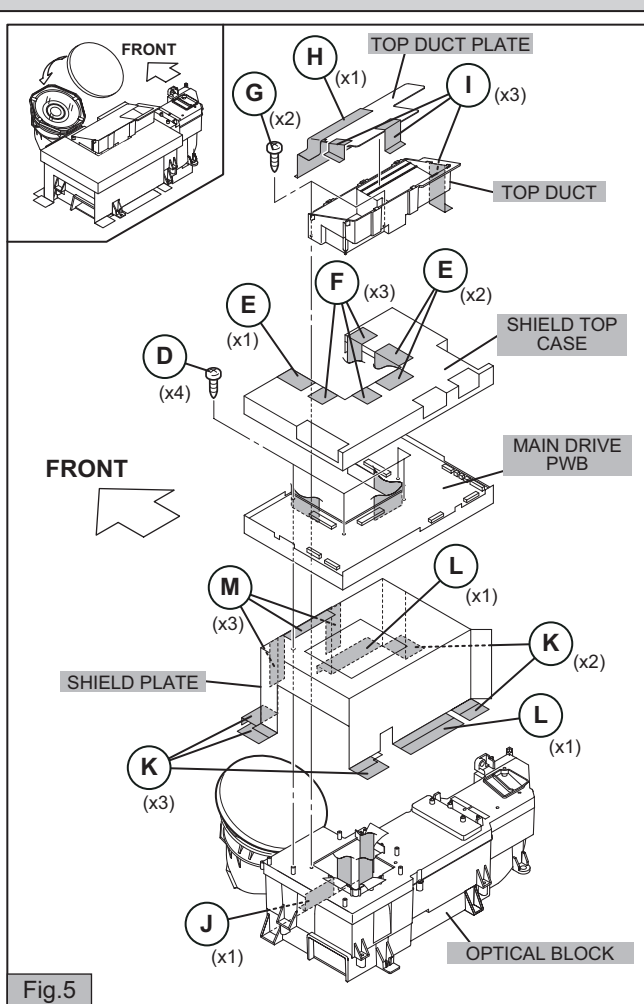
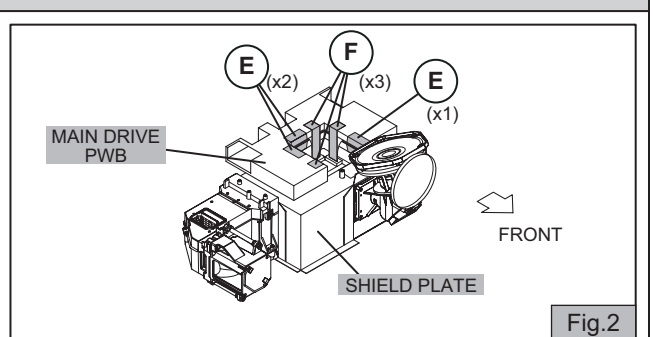
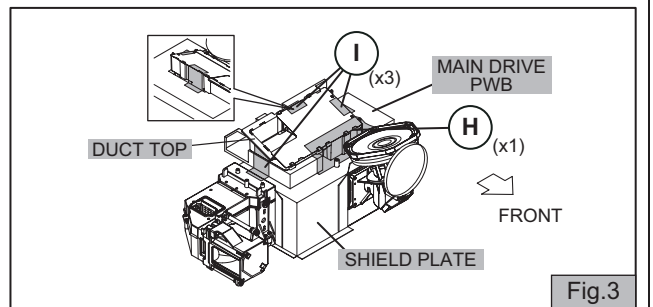
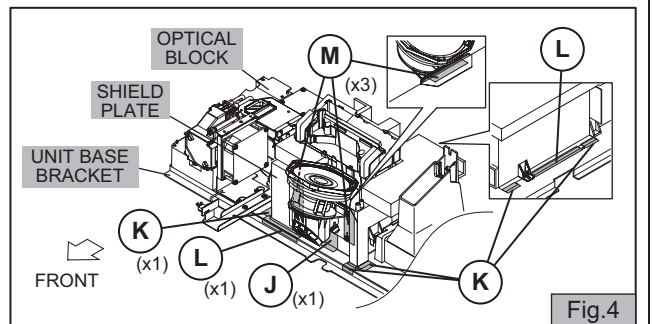

Fig.5
Fig.2
Fig.3
Fig.4
- (6) Install the SHIELD PLATE (box-shape).
- (7) Install the MAIN DRIVE PWB.
- (8) Install 4 screws [D] to MAIN DRIVE PWB.
- (9) Install the SHIELD TOP CASE .
- (10) Attach the shield (copper film) tapes 6 positions [E] and [F] as shown in Fig.2 and Fig.5.
- (11) Install the TOP DUCT.
- (12) Install 2 screws [G] as shown in Fig.5.
- (13) Install the TOP DUCT PLATE as shown in Fig.5.
- (14) Attach the shield (copper film) tapes 4 positions [H] and [I] as shown in Fig.3 and Fig.5.
- (15) Then attach the shield (copper film) tapes 11 positions [J], [K], [L], and [M] as shown in Fig.4 and Fig.5.